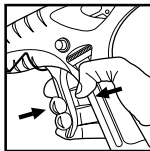

Fig.4
- Pull **Trigger** back gently towards handle. (Fig. 4)